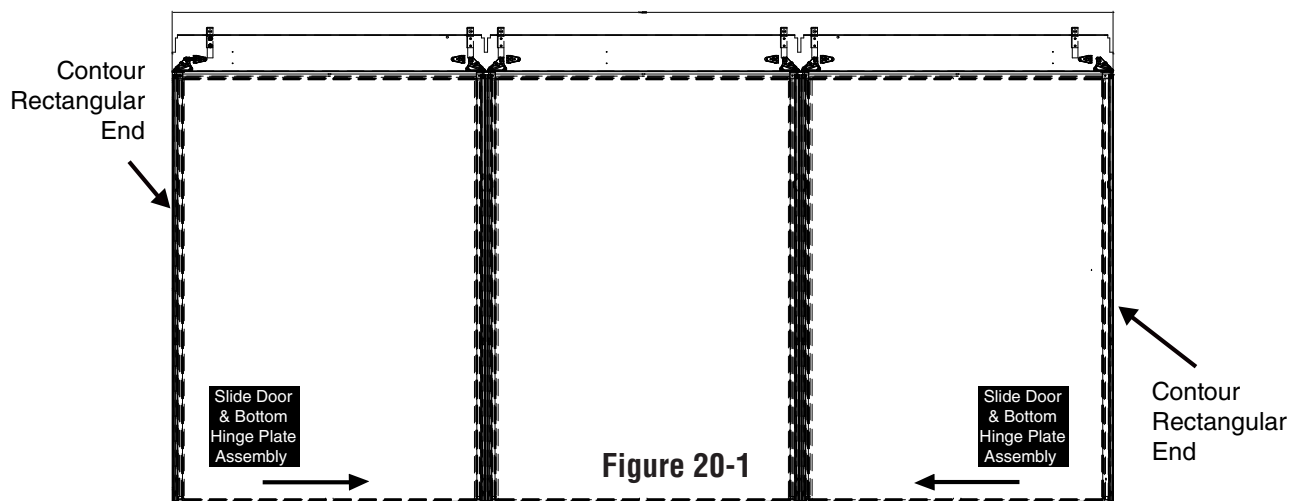

Figure 20-1
A. Remove screws from plate assembly bottom hinge. Slide the bottom of the door and the hinge assembly away from the contour / rectangular end so that the wrench will fit on the torsion rod. Adjust the torsion rod to the desired tension. Move door back to original position and reinsert screw into plate assembly bottom hinge. See Fig. 20-1.